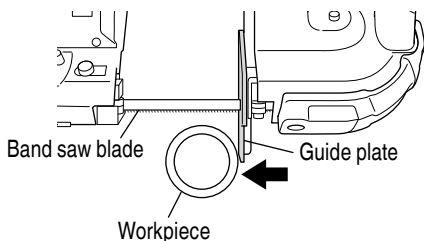

Fig. 20
- (4) Press the workpiece against the guide plate (Fig. 20) Press the workpiece against the guide plate in a position where there is no contact with the band saw blade.